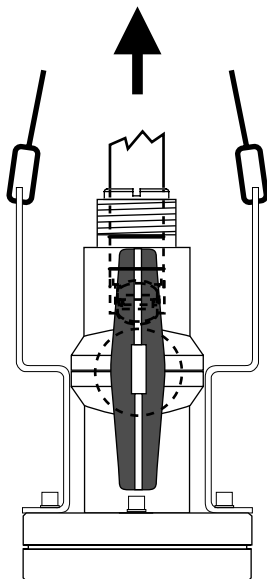

Figure 2
4. Pull the flow sensor upward to remove slack in the safety cables. (Figure 2)
6. Open the ball valve by turning the handle to the vertical position. (Figure 2)
2. Carefully pull the flow sensor upward with a twisting motion until the safety lanyards are fully extended. (Figure 2)